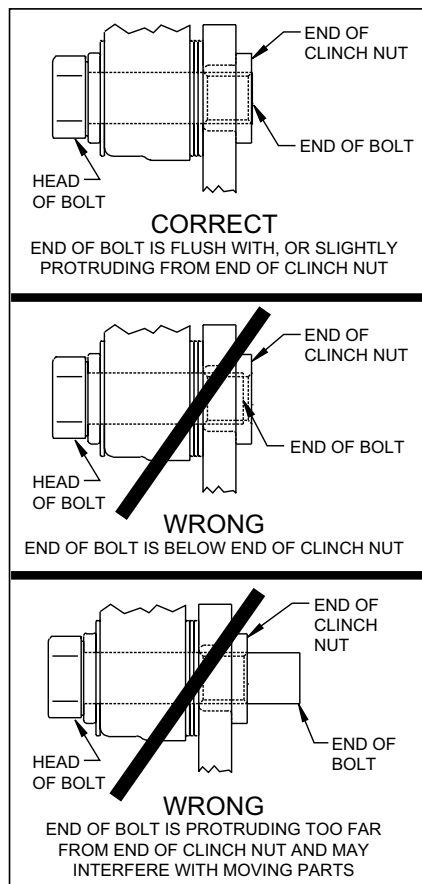

Figure 5. Clinch Nut Engagement Diagram
CAUTION: All mounting bolts must fully engage clinch nuts. Be sure to check that all bolts are either flush or protruding through flanged side of clinch nut after shimming, Figure 5.
adjust the caliper (15) by using 0.032 inch thick shim washers (18). The shim washers (18) should be placed between the caliper (15) and the caliper mounting bracket (1). Finger tighten and recheck alignment. Add as many shim washers (18) as necessary to achieve the correct alignment. **NOTE:** *The end of the bolt must be flush with or slightly protruding from the head of the clinch nut.* See Figure 5. Place spare shims (18) between washer and caliper mounting ear to achieve the proper mounting fastener configuration. Always use the same amount of shims on both the top and bottom caliper mounting bolts (17). Loosen the two bolts (17) and apply red *Loctite®* 271 to the bolt threads (17) and torque to 40 ft-lb. Caliper mount bolts may be safety wired for additional security.
- Install the disc brake pads (19) into the caliper (15). Secure the disc brake pads to the caliper utilizing cotter pin (20).